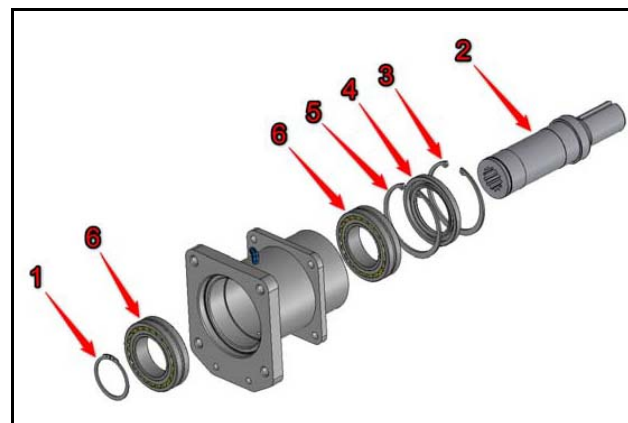

Figure 28
1. Remove the OLA shaft retaining ring (Item 1) **[Figure 28]**.